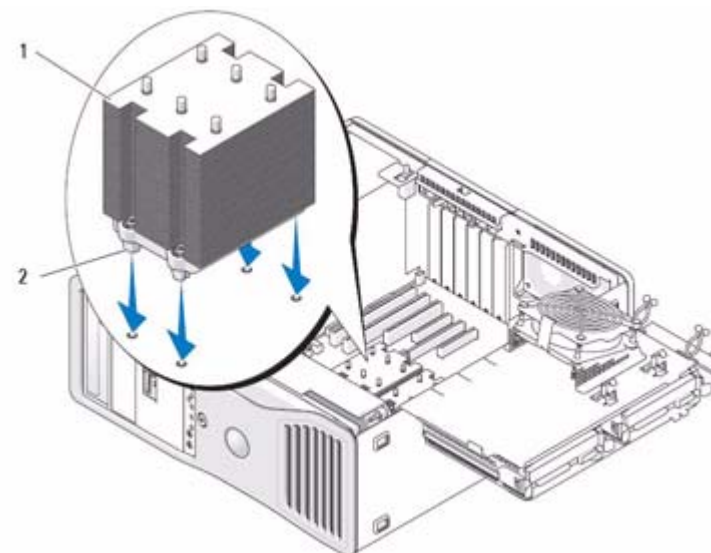

Figure 27:
8. Install the Heat-sink Assembly as shown in Figure 27 on page 35: